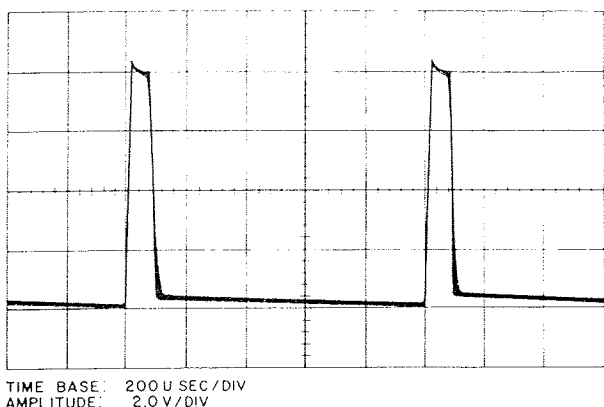

Figure 6.20 – Q13, Collector Waveform
n. Reconnect oscilloscope to collector of 1 kHz multivibrator stage Q13 (or bottom of R43). The observed waveform should resemble the one shown in figure 6.20.
e. Connect oscilloscope to the junction of R42 and the collector of Q13. Set R38 to the center of the range which results in a waveform with time between pulses equal to and amplitude close to those shown in figure 6.20.